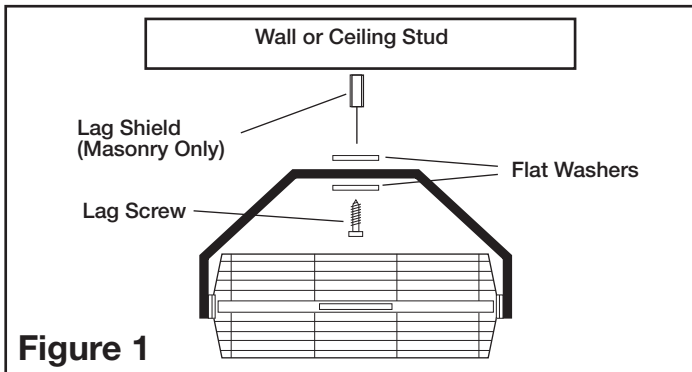

Figure 1
- Wood Structures:** Locate the wall or ceiling stud nearest to the desired Fan location. Attach the Fan to the stud using a 3/8" diameter x 2" long Lag Screw (Not Supplied) (Figure 1).
- Masonry Structures:** Attach Fan using a 3/8" Lag Screw, with a Lag Shield of appropriate length (Not Supplied) (Figure 1).